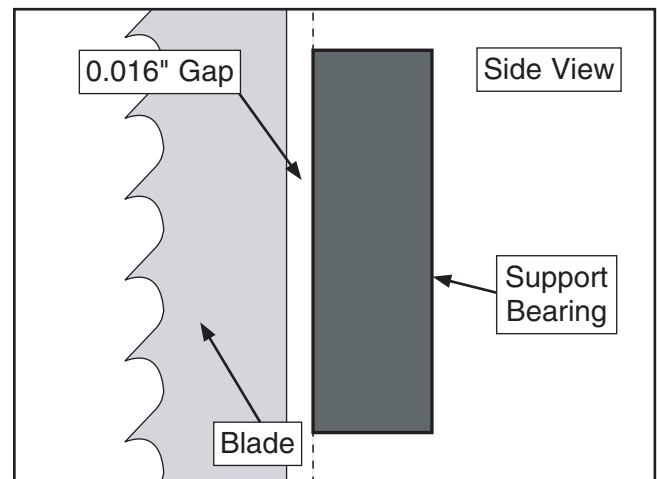
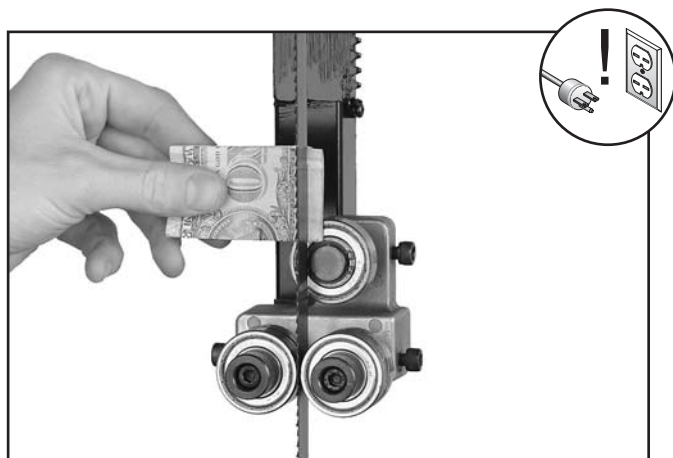

Figure 52. Blade should be aligned approximately 0.016" away from the bearing edge.
Figure 53. Dollar bill folded twice to make an approximate 0.016" gauge.
7. Place a 0.016" feeler gauge between the support bearing and the blade, and position the bearing 0.016" away from the back of the blade, as illustrated in **Figure 52**.
Note: For a quick gauge, fold a dollar bill in half twice (four thicknesses of a dollar bill is approximately 0.016") and place it between the support bearing and the blade, as shown in **Figure 53**.
6. Place a 0.016" feeler gauge between the support bearing and the blade, and position the bearing 0.016" away from the back of the blade, as illustrated in **Figure 52**, or use a dollar bill, as shown in **Figure 53**.